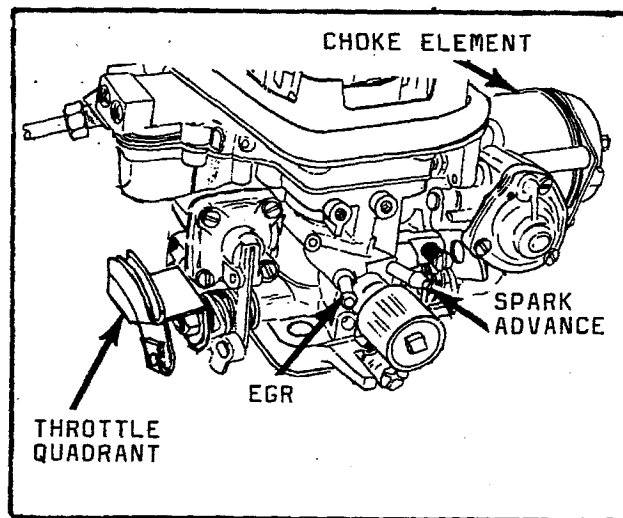

Figure 3
24. Connect the lines removed in step 6 to the Weber carburetor. The spark advance line is connected to the fitting on the choke end of the carburetor and the EGR line is connected to the other fitting. See figure 3.